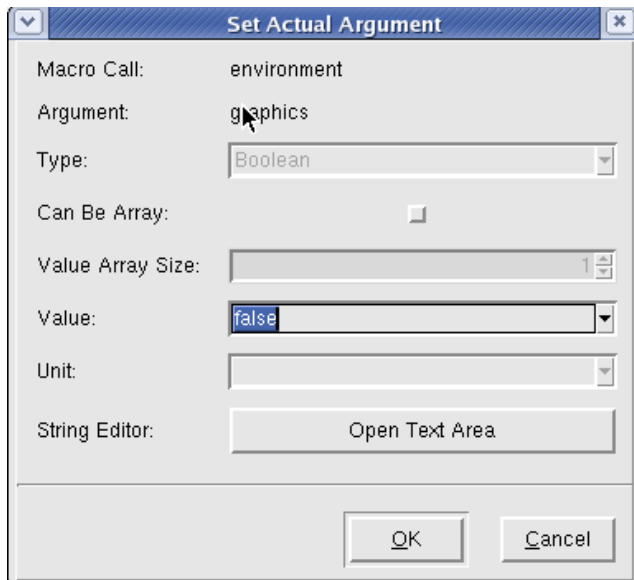

Figure 35: Setting the graphics environment to false.
6. Double Click on Graphics and set it to false. This makes sure plots do not pop-up during simulation (Figure 35).